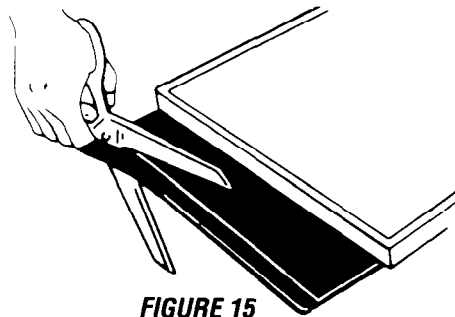

FIGURE 15
5. Use a pair of scissors and cut toe plate along this line. See Figure 15.